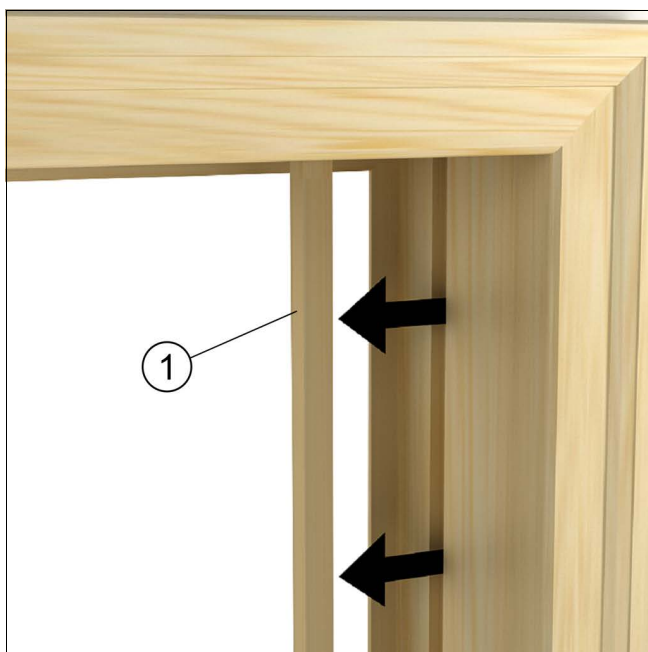

Figure 4
3. Remove the head jamb and side jamb parting stops with a pry bar or adjustable pliers. See Figure 4.